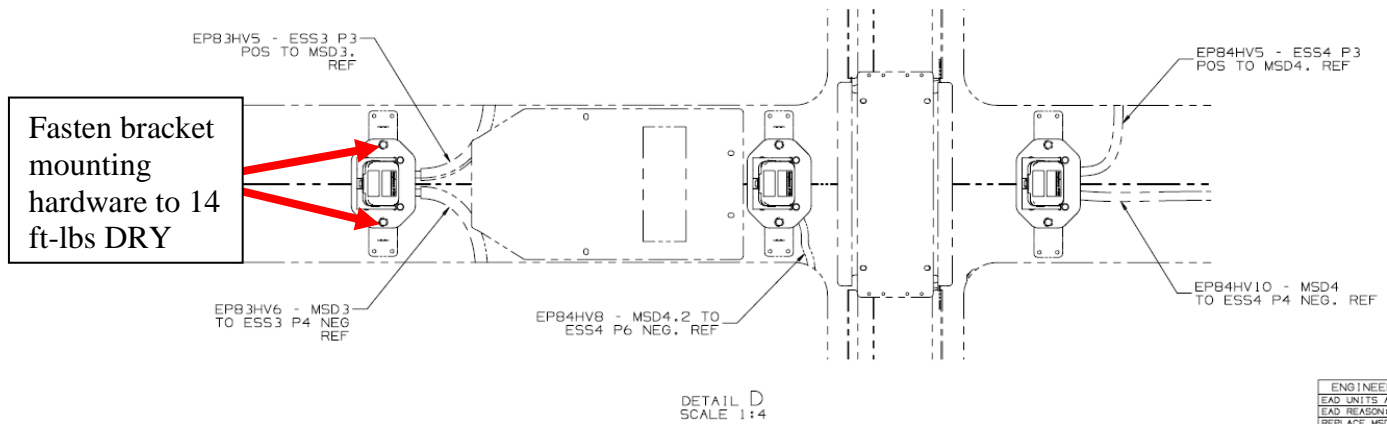

Figure 24: Front rooftop ESS (DETAIL D)
3.8 Install new MSD bench assembly onto rooftop ESSs x5. See figure 24, 25.